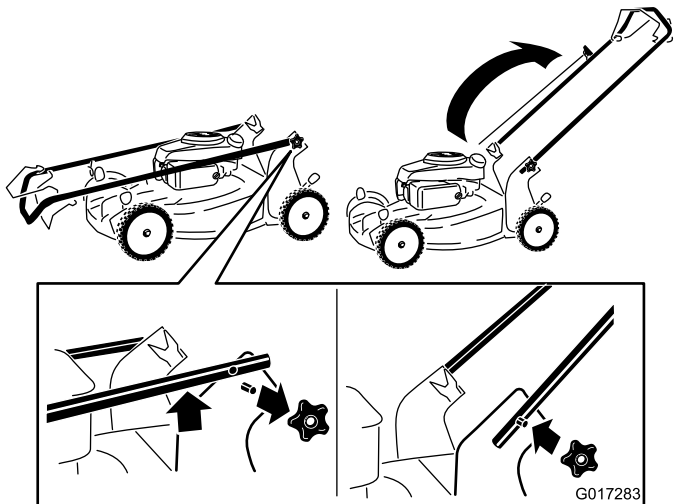

Figure 3
1. Remove the handle knobs from the machine housing (Figure 3).
3. Install and tighten the handle knobs that you removed in step 1 (Figure 3).